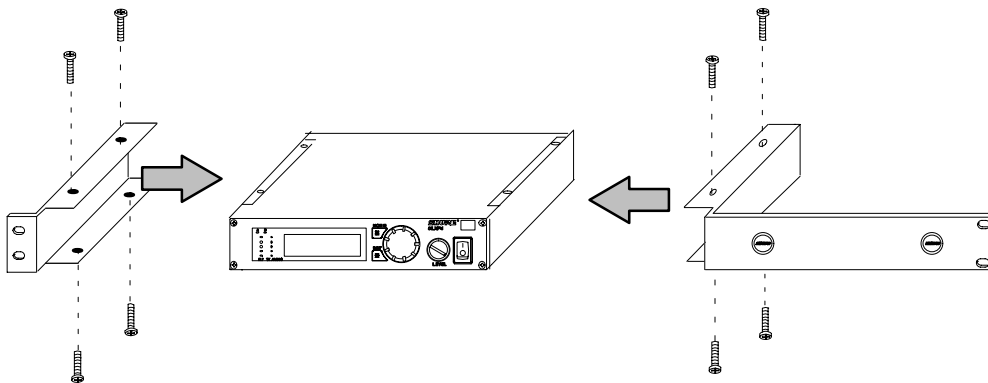

FIGURE 47
1. Align the supplied rack-mount brackets over the holes on each side of the receiver. Refer to Figure 47.